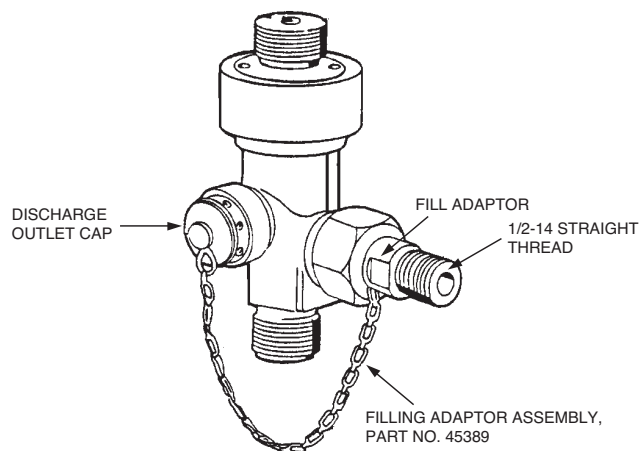

FIGURE 5
- Attach the fill adaptor to the side filling inlet of the valve. See Figure 5. The side filling inlet is the lower of the two large threaded ports. Make certain the washer is in place in the fill adaptor. Screw the adaptor on the valve filling inlet, wrench tighten.
- Screw the knurled discharge outlet cap on the discharge outlet, the highest large threaded port on the side of the valve. See Figure 5. This should be hand tight only as the pin inside the cap acts to open the anti-recoil. By holding the anti-recoil open, the residual pressure under the main valve seat is relieved, allowing the valve to properly close.